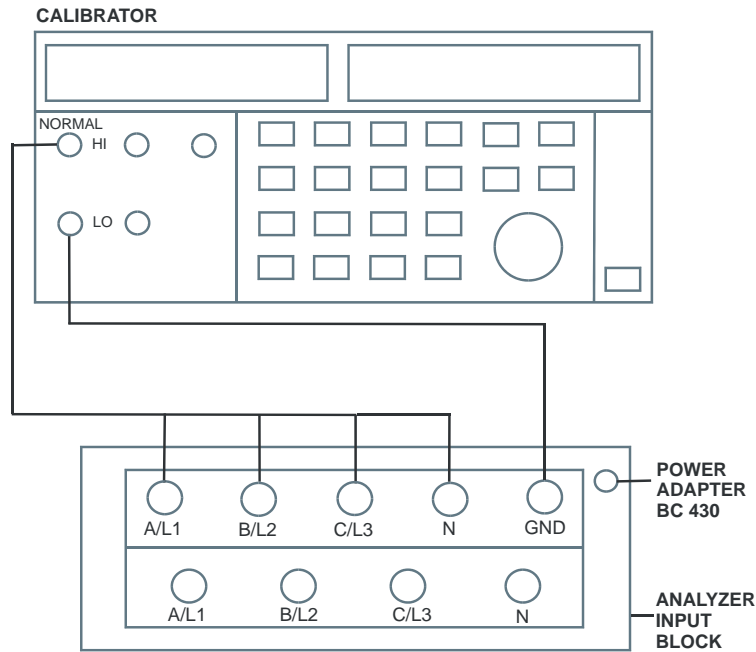

Figure 5-4. Voltage Gain Adjustment
2. Connect the Analyzer to the Calibrator as shown in Figure 5-4: disconnect the current inputs!